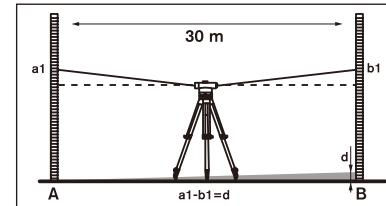

fig.10
- 1.Checking should be done at a distance of 30m. Place the instrument in the center of this distance, put 2 leveling rod at the both end of measuring distance A and B separately.(see fig.10)